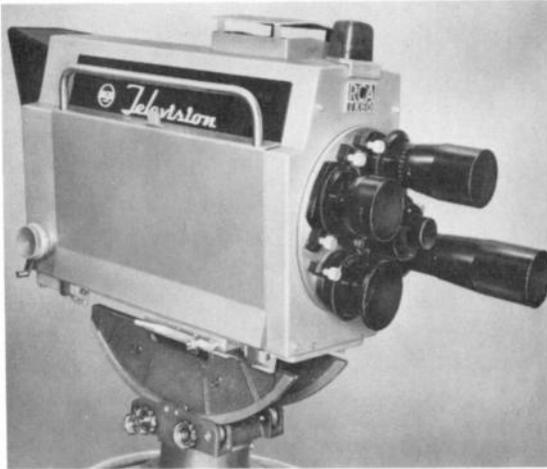

FIGURE 3-1 MONOCHROME TELEVISION CAMERA WITH LENSES OF DIFFERENT FOCAL LENGTHS ON REVOLVING TURRET. (ACA)
The video signal for the picture begins at the camera tube, inside the camera head (Fig. 3-1). The input is light from the scene to be televised, and the output is electric signal corresponding to the picture information.
**Optical lenses.** With the smaller vidicon and plumbicon camera tubes having a diameter of 1.25 in., the camera can use the same lenses as in 16-mm photography. The focal lengths are generally 4 to 8 in. for wide-angle views and closeup shots. Shorter lenses have a wider angle of view. A typical lens opening is  $f/5.6$  for normal light levels. Lens shades are generally used to reduce reflections (Fig. 3-1). In addition to the different lenses, several cameras can be used for different angles in televising the scene.